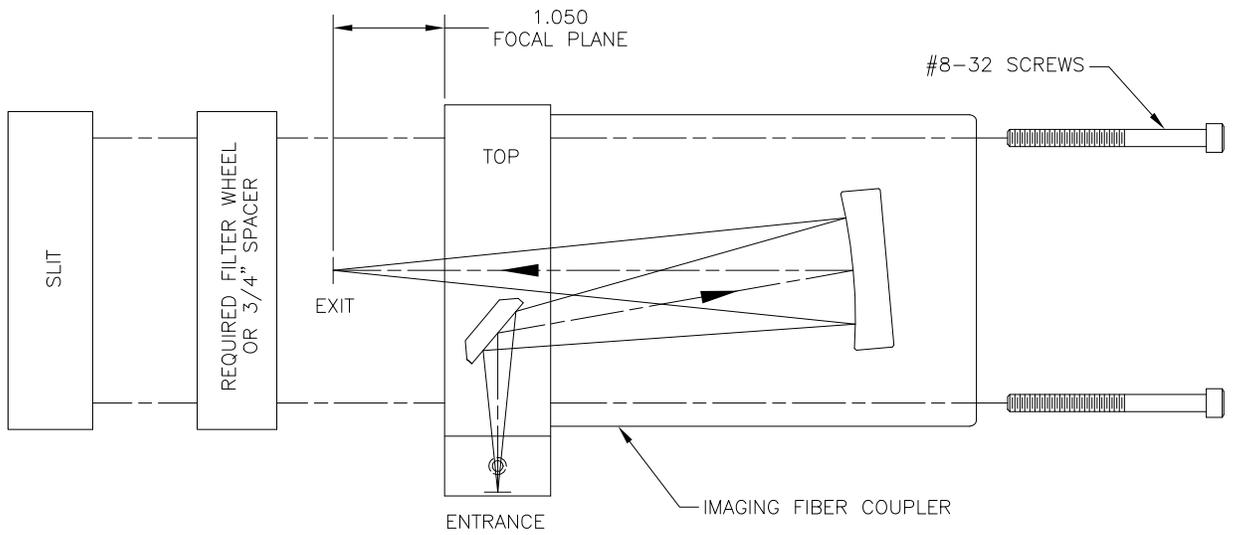

FIGURE 1
1. Mount the Imaging Fiber Coupler and either the Filter Wheel or the ARC provided Spacer to the Entrance Slit of the SpectraPro Spectrograph with the "TOP" label oriented at the top of the assembly (See Figure 1), using the four (4) #8-32 screws provided.